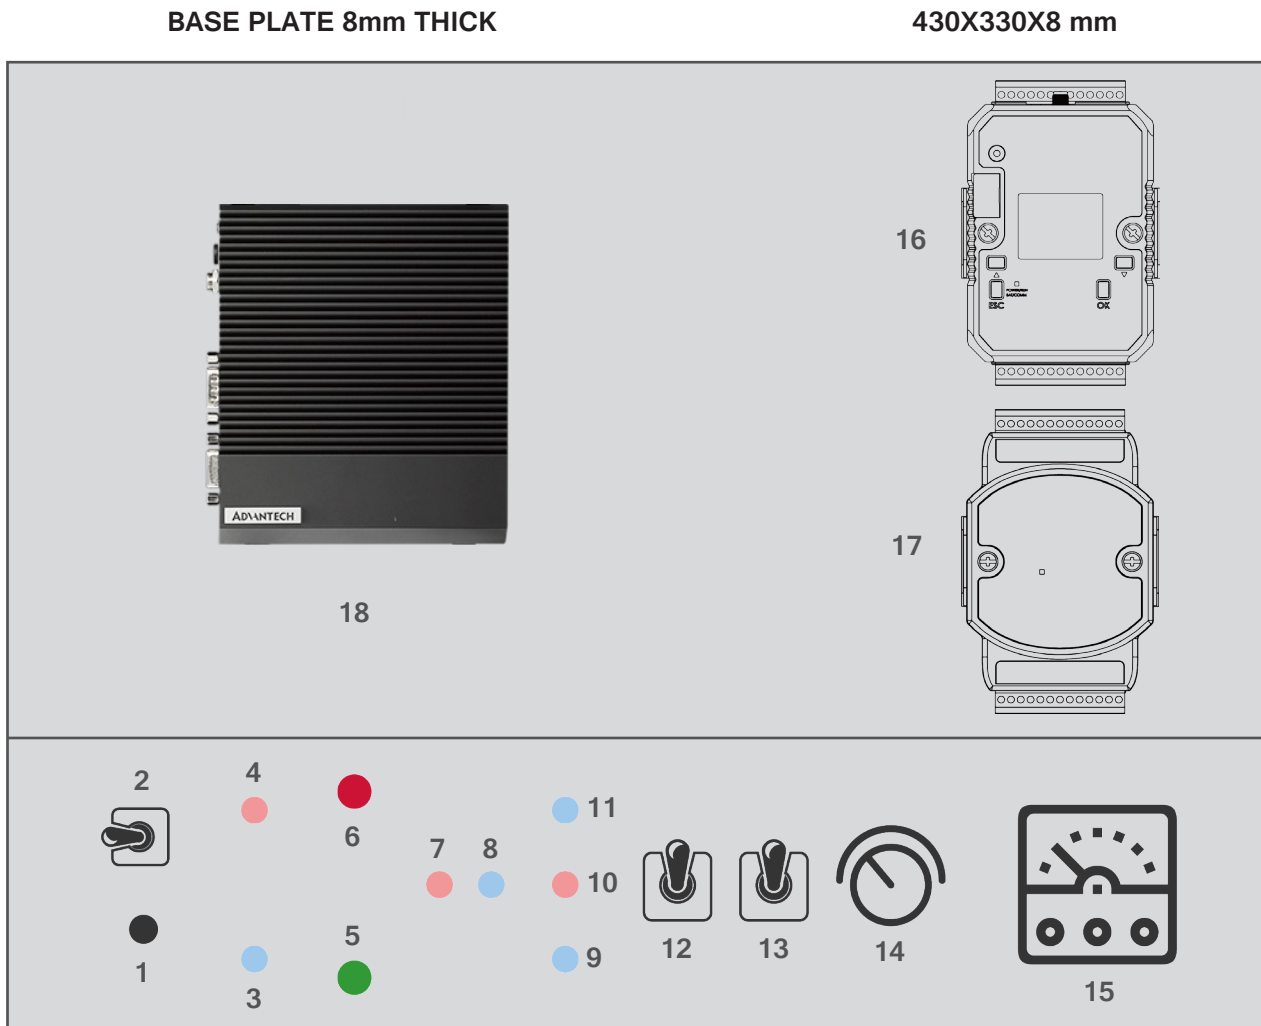

Figure 1 - IOT Starter Kit constructive schemes
There is a 12 V power socket, 5,5x2,5 mm, to insert the power supply unit (sold separately). Point 1 in Figure 1 represents the power socket.
After connection, switch the power toggle to ON (point n.2 in Figure 1).
- LED Green: indicates the DO0 digital output state of Yotta A-5289D (n. 5 in Figure 1).
- LED Red: indicates the DO1 digital output state of Yotta A-5289D (n. 6 in Figure 1).